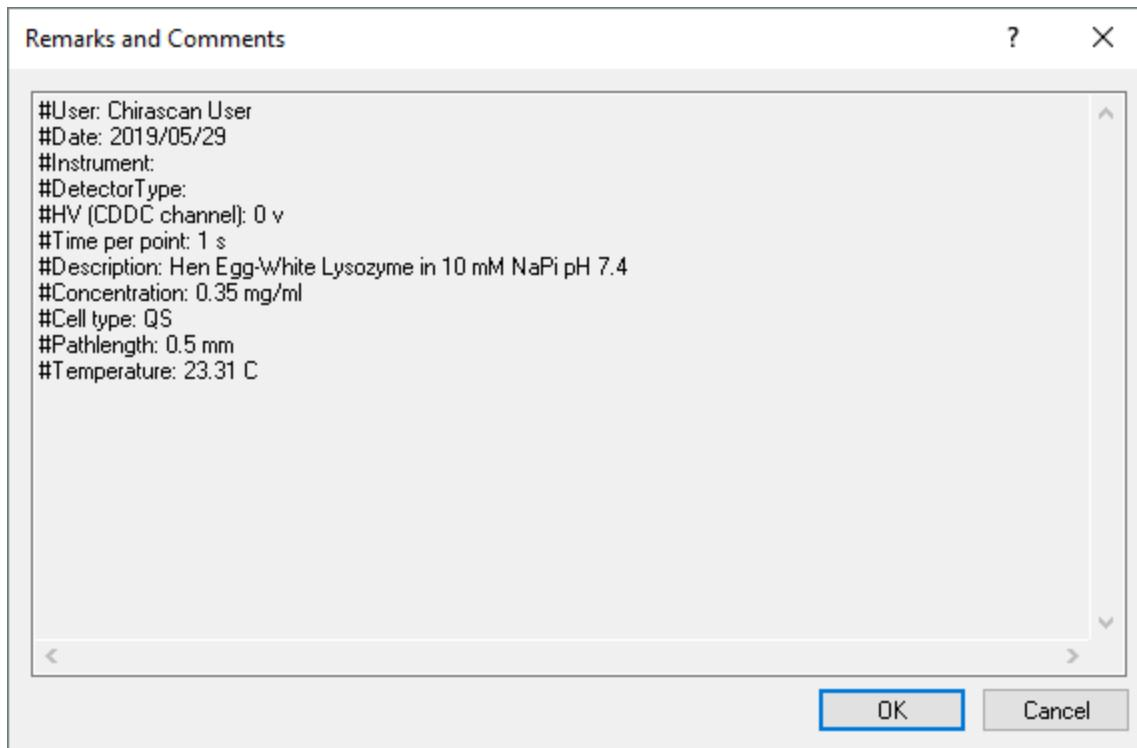

Figure 68: The Remarks and Comments dialog
- **History...** opens the **History** dialog (Figure 68) which shows the time and date stamps and the results of operations113 performed on the data (such as baseline subtraction, smoothing, curve fitting etc.).